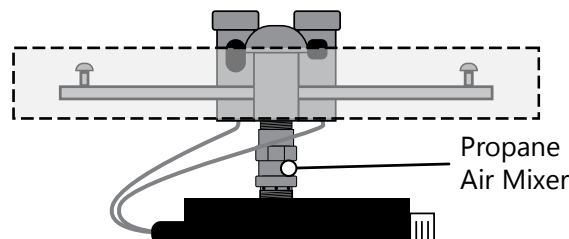

FIGURE 2: AIR MIXER LOCATION
- b. NOTE: The air mixer must be installed to use liquid propane. The "holes" on the air mixer should always face DOWN, away from the burner and pan. The air mixer should be installed immediately below the burner. (FIG 2)
- If using with propane gas - ONLY use with air mixer correctly installed. (See Fig 2) ½ " air mixer for propane includes stamped marking for gas flow direction. Air mixer is not required with Natural Gas.